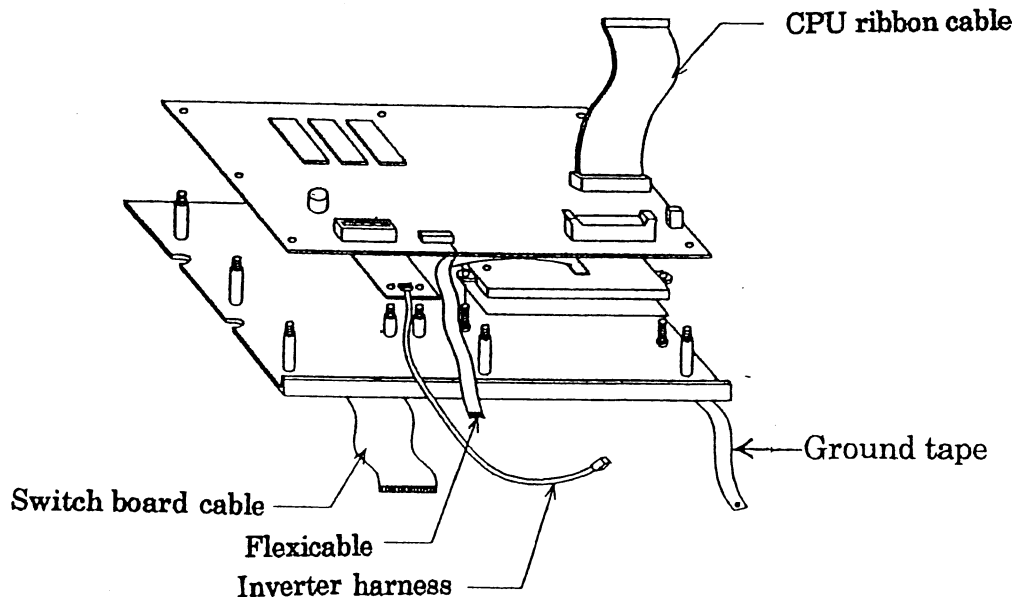

Figure 8
- (a) Disengage four connectors (switch board cable, inverter harness, flexicable, CPU ribbon cable) and a ground tape on CPU Board. (See Fig.8)